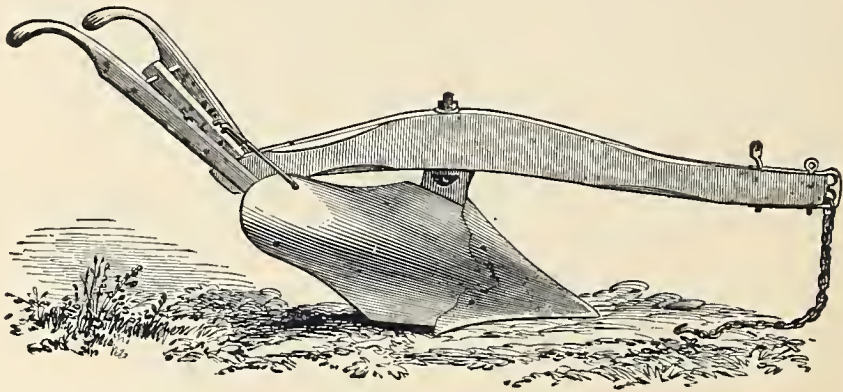

Fig. 286.—Heavy Swivel Road Plow, A-4.
*Heavy Swivel Road Plow, A-4*, is represented by *Fig. 286*. It is made very strong and is especially designed for the roughest road-work, being of a size and capacity requiring a draft of four to eight cattle. It is extensively used and will